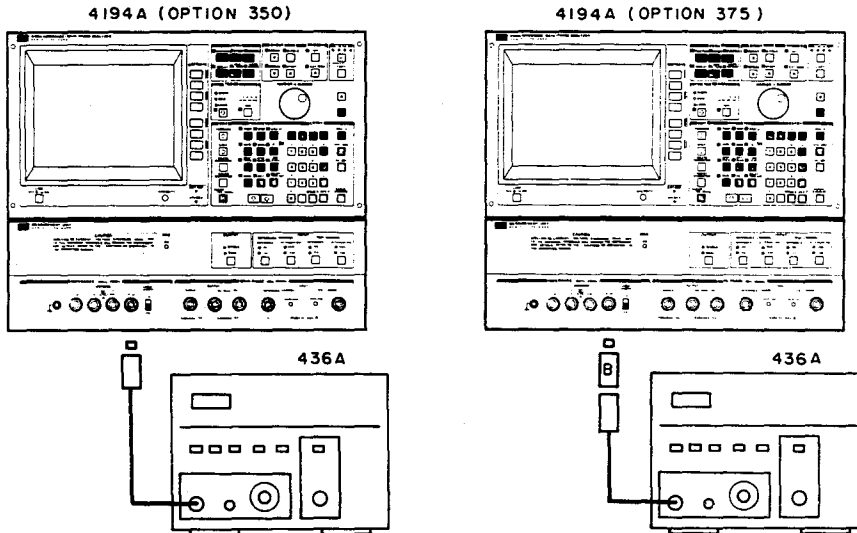

Figure 4-28. Impedance Measurement Signal Level Test Setup 1
1. Connect the 436A to the 4194A's UNKNOWN HCUR terminal as shown in Figure 4-28.